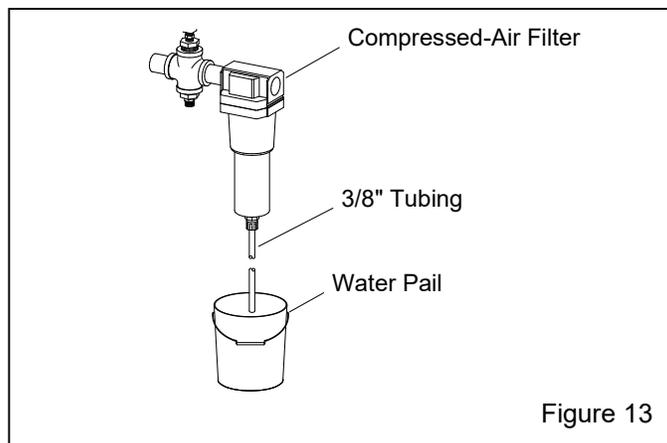

Figure 13
**2.14.2** Insert a short length of 3/8" tubing into the automatic drain at the bottom of the compressed-air filter, as shown in Figure 13, and place the other end into a pail. When the filter automatically drains, the water will drain into the pail.